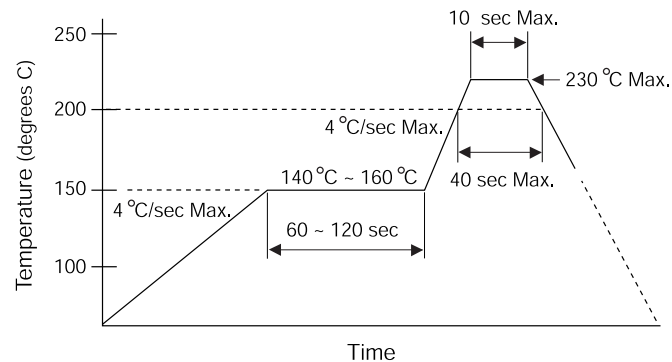

Figure 6. Temperature Profile for the Top Surface
- The temperature profile at the top surface of the ZHX1201 transceiver, shown in Figure 6, is recommended.